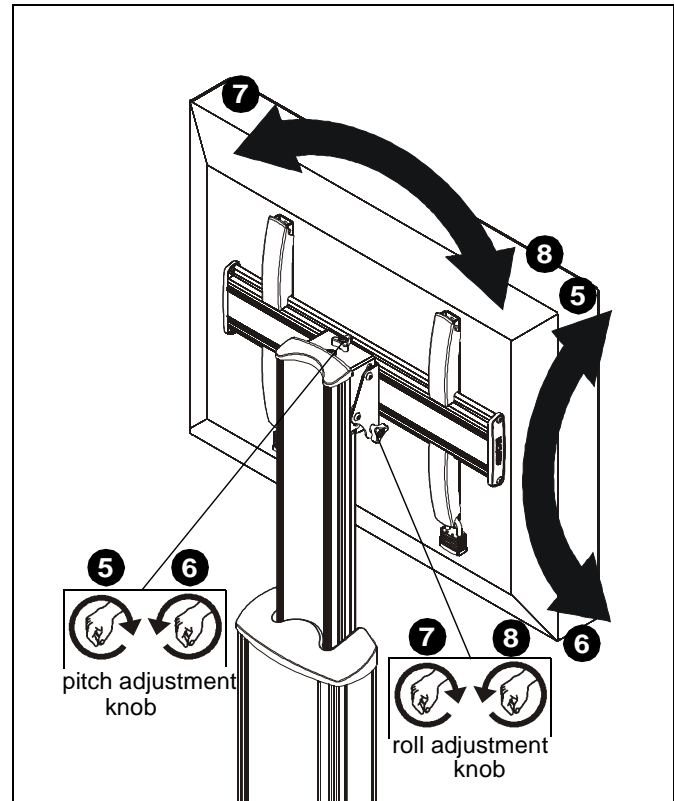

Figure 15
5. Turn pitch adjustment knob clockwise to tilt display forward. (See Figure 15)
6. Turn pitch adjustment knob counterclockwise to tilt display back. (See Figure 15)
7. Turn roll adjustment knob clockwise to adjust roll to the left. (See Figure 15)
8. Turn roll adjustment knob counterclockwise to adjust roll to the right. (See Figure 15)